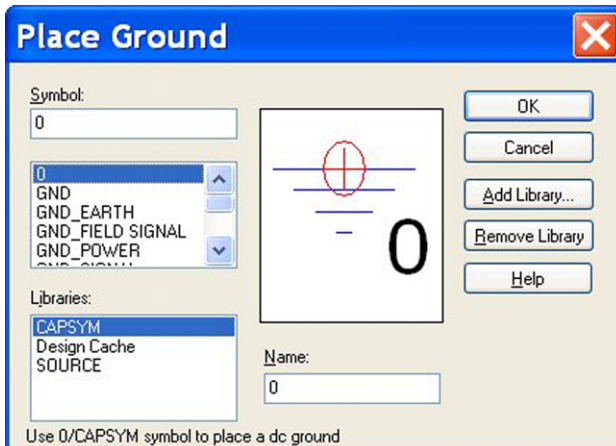

FIGURE 1.22
4. To place a ground symbol, **Place > Ground** (or press G) or click on the icon  or  and select the 0 V symbol from the capsym.olb library (Figure 1.22).